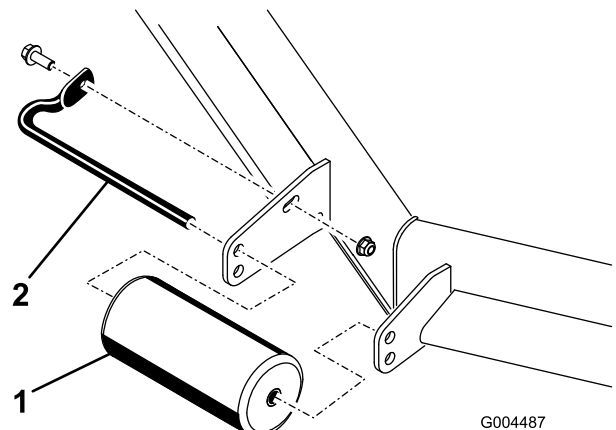
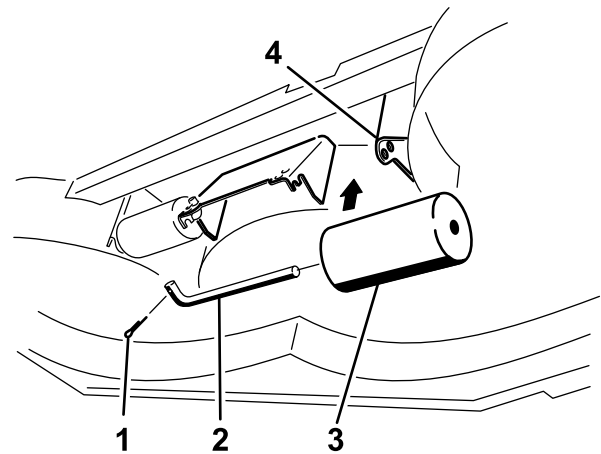

Figure 24
Figure 28
4. Remove the fasteners securing each roller on your mower deck, and move the rollers up or down as desired; refer to Figure 24 through Figure 28 as applicable for your mower.